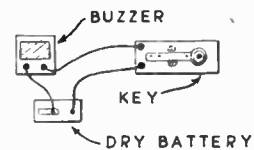

Fig. 3 - Circuit for key, battery and buzzer
A simple buzzer circuit is given in Fig. 3. For proper practice two persons are necessary, and one should send while the other receives, positions being changed from time to time. Rapid sending is much easier than rapid receiving, but with a little practice the sound of each letter will be recognised. Twelve words per minute (sixty letters) is a good average. (311)
There is room, indeed for humour. Fig. 3 shows a squared-up design which can be copied. The squares can be, say, 1 in., but can be, for example, ¾ in. or 1½ ins. according to the size required. Except for the rolling tongue, the figure is symmetrical so that only one half need be shown. One can show a large Alsatian or bloodhound sitting in an absurdly small basket (Fig. 6), or by the simple process of having two separate photographs enlarged to varying scales, and then stuck side by side on the plywood, one can get the ludicrous effect of an outside 'nound' as illustrated in Fig. 5.